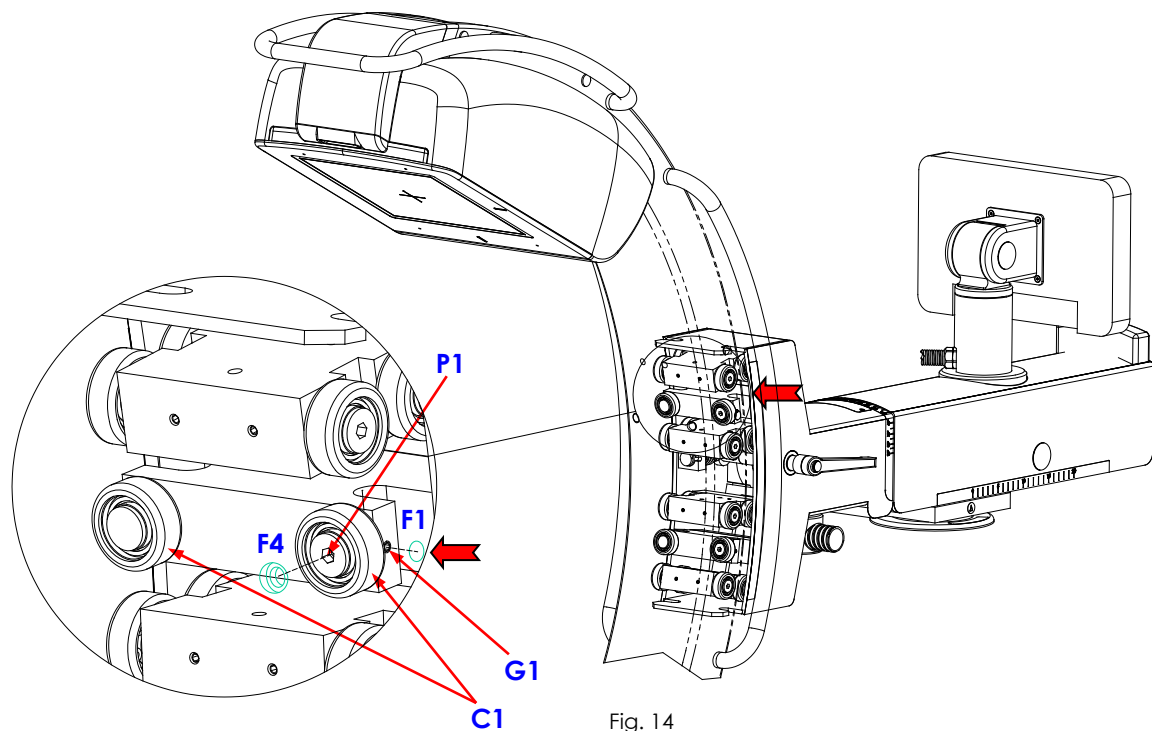

Fig. 14
- Take the C-arm to the position shown in Fig.14 in order to align one of the holes (F4) with the eccentric pin on one of the bearings (C1), while the holes (F1) are lined up with the grub screws locking the pins.